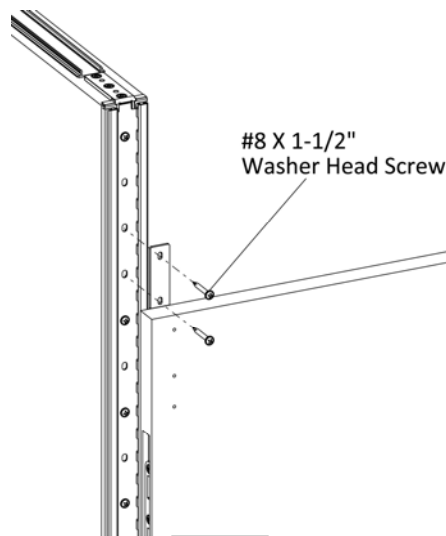

Figure 4
- 7. Position the gallery panel with female bed fitting and standard panel to create a 90-degree angle, (Figure 4).